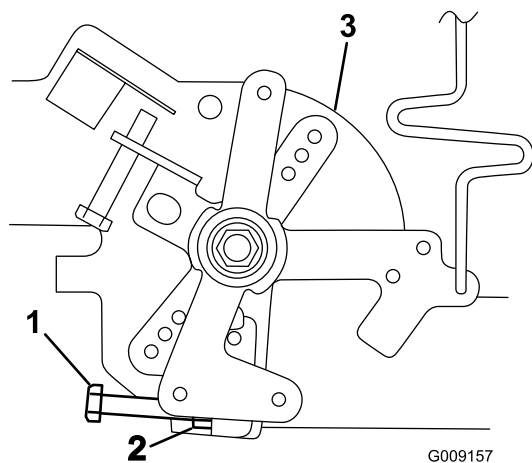

Figure 2
4. Loosen the jam nut securing the high idle adjusting screw on the engine (located on the throttle/choke control linkage—Figure 2).